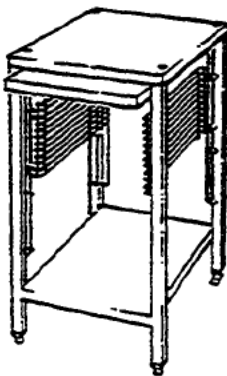

Figure 2-5. Equipment Stand
- The SteamCraft V has capacity for five 12" x 20" x 2.5" Cafeteria Pans (model # SP-25 or PP-25). Convenient storage for these pans and their alternates should be considered when selecting the operating location. If a satisfactory counter location is not available consider using a model ES-1827 Equipment Stand. This stand, illustrated in figure 2-5, is specifically designed for the SteamCraft V, and meets the above criteria.